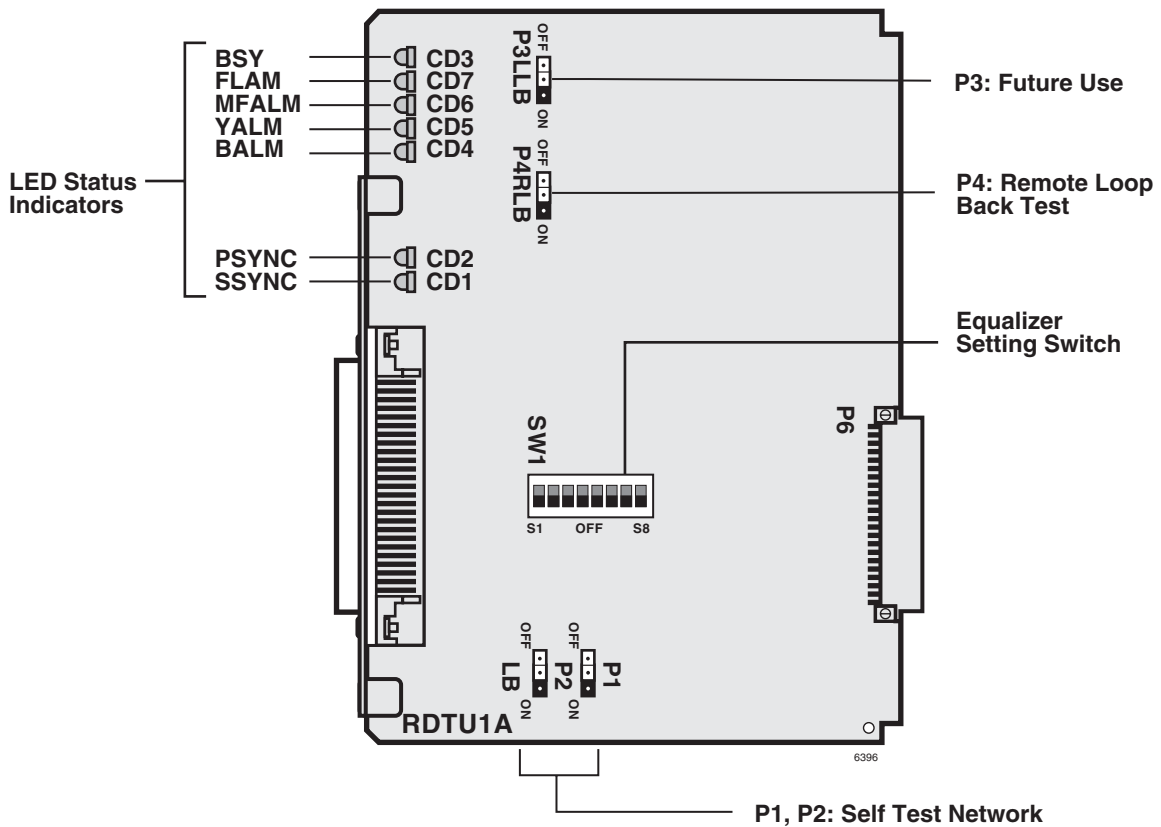

Figure 8-7 RDTU1A PCB (RDTU2 is similar)
RDTU controls and interface connectors are shown in Figure 8-7 and described in Table 8-12.
- RDTU1 & 2, move P1 and P2 to On (see Figure 8-7); RDTU3 move SW8 & SW9 to On.
- P1 and P2 to On position (see Figure 8-7).